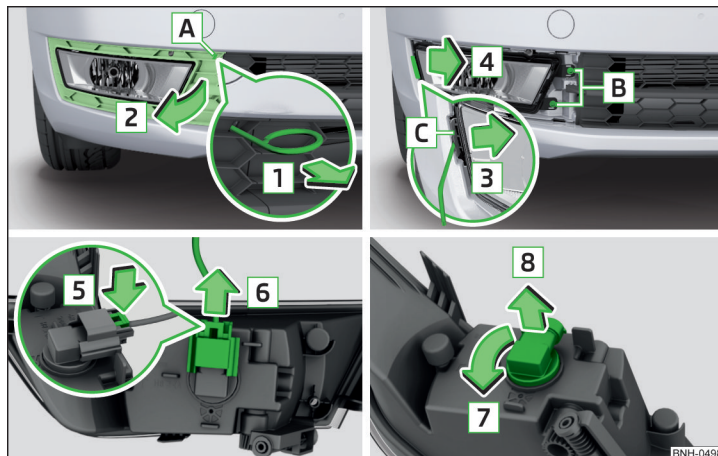

Fig. 158 Remove the number plate light / replace the bulb
- › Insert the clamps for removing the full wheel covers » page 155, *Vehicle tool kit* into opening **A** » Fig. 158.
- Replace the fog light by inserting it in the opposite direction of the arrow **4** » Fig. 158 and tightening.